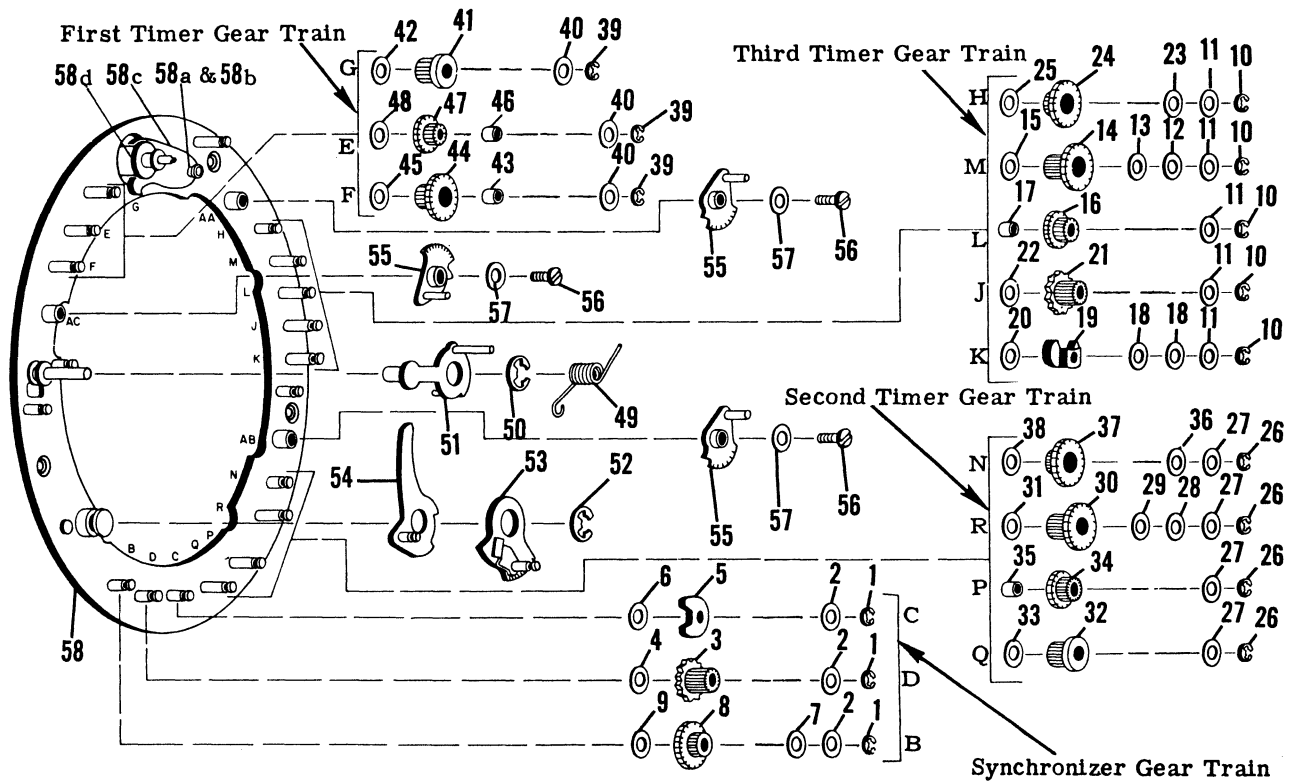
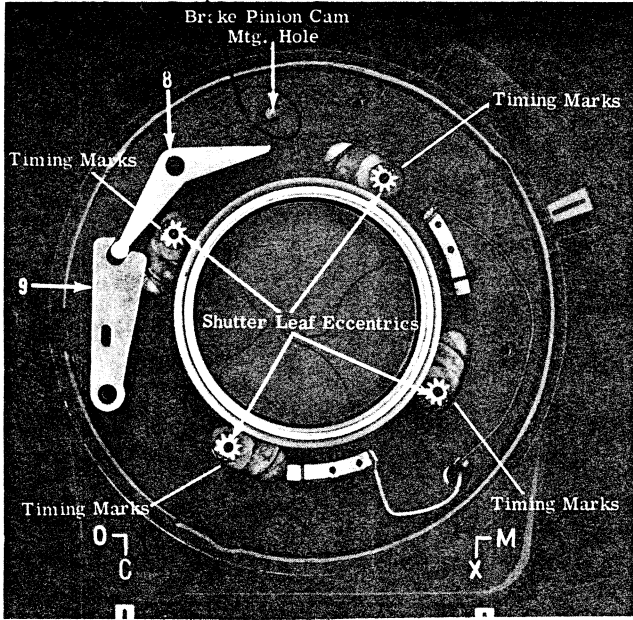
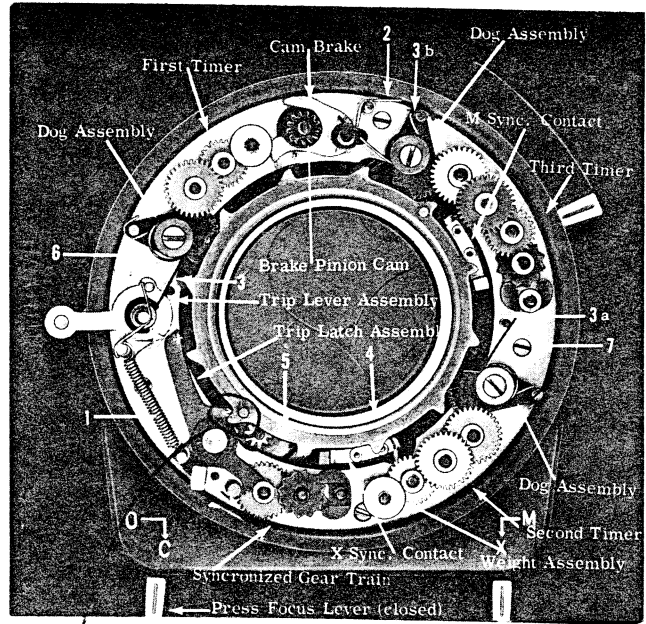

Figure 5. CONTROL PLATE COMPLETE
Figure 12.
Figure 13.
Brake pinion cam (all surfaces)	58d, Figure 5
Gear trains (posts on control plate)	Figure 5
Screws (threads)	56, Figure 5
Loose post on control plate assembly (58, Figure 5)	Replace control plate assembly
7. All components of the control plate (6, Figure 13) secured by screws or retaining rings can be removed without removal of the control plate from the shutter. Complete breakdown of the control plate is shown in Figure 5.
8. When removing screw (7, Figure 13) between sync. and second timer gear trains, it may be necessary to remove weight assembly in second timer train to avoid bending post on control plate.
The exploded view of the control plate (Figure 5) and the key given with the figure shows disassembly order for completely stripping the control plate. Use the figure and key to identify components and maintain relative component positions. All procedures are obvious except for the following special instructions.
2. When assembling timing dog assembly (55) and retainer (57) to posts AC, AB and AA, do not completely tighten screws (56). Reverse control plate and apply one drop of adhesive (39491P4) to each screw hole before tightening screws.
5. The control plate assembly (58) includes the brake stud (58a), brake spool (58b), cam brake (58c) and brake pinion cam (58d). Refer to para L for special repairs involving these parts.
6. First timer train on current control plate is assembled as shown with spacers on top of timing gears (44 and 47). Earlier models had the spacers mounted underneath the timing gears. If an earlier model is being repaired, update the first timer train by substituting the new timing gear (44, Figure 26) on post F. Mount both spacers (43 and 46) on top of timing gears (44 and 47) as shown in Figure 5.
a. Place cable release lever (9, Figure 12) and trip lever (8) over machined bosses on front housing.
c. Before assembling control plate complete (6, Figure 13) into front housing, apply a thin coat of lubricant (39484P8) to all surfaces of brake pinion cam. Position control plate so that brake pinion cam locates in mounting hole in front housing (Figure 12), and post on trip lever assembly (Figure 13) locates in slot in cable release lever (9, Figure 12). Apply sealant (39491P4) to threads of four screws (7, Figure 13) and secure control plate.
e. Locate timing marks on four shutter leaf eccentrics (Figure 12) so that centerline between timing marks of each eccentric is visually aligned to center of shutter. Timing marks on each eccentric should point directly toward outside of housing. Apply a thin coat of lubricant (39484P2) to
inside diameter and bottom surfaces of drive gear assembly (5, Figure 13). Position three dog assemblies away from center opening, and assemble drive gear so that front face of a tooth containing a spring post is against surface (z) on trip lever assembly. Do not allow any other lubricant to contact drive gear. Assemble drive gear bearing (4) with step facing up.